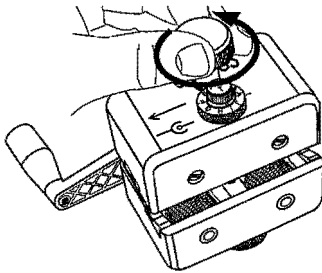

Figure 7
a) Use the thumbscrew to open the tool to at least 0.25 inch more than the diameter of the tube to be accessed (Figure 7).